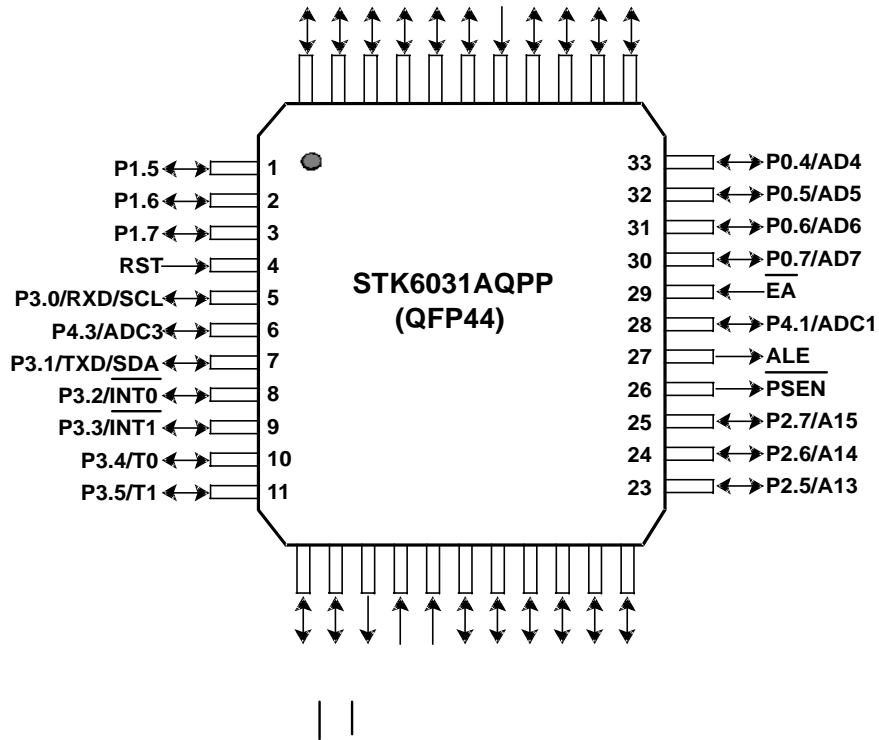

Fig.2 Pin configuration of QFP44 package.
- Figure 2** Pin configuration of QFP44 package. ...Page 6